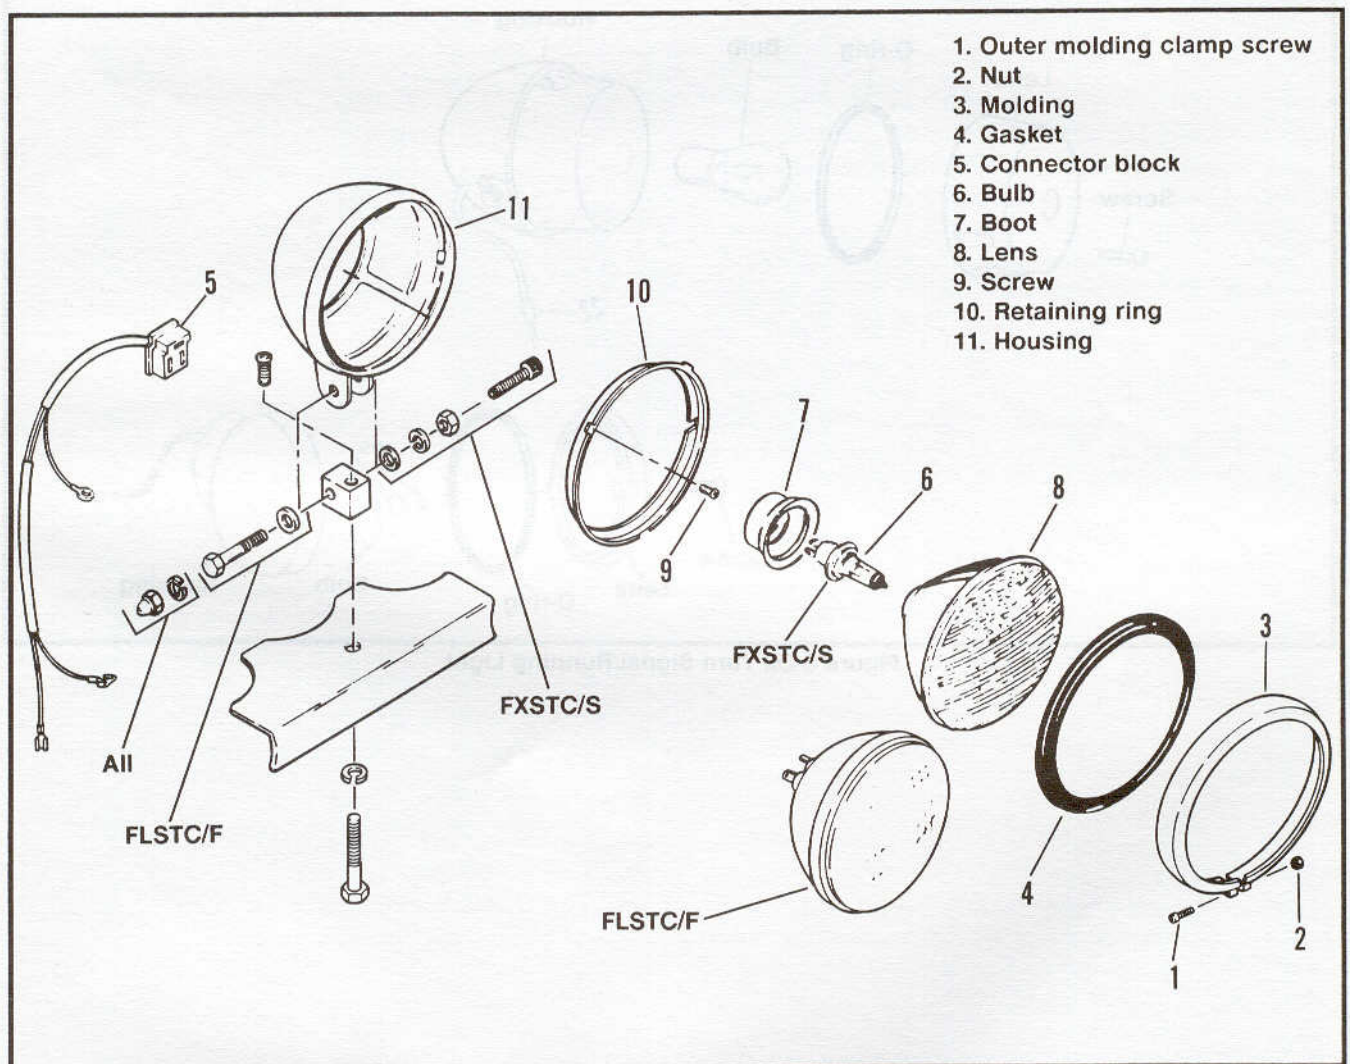

Figure 8-24. Headlamp - 1992
1. See Figure 8-24. Loosen outer molding clamp screw (1) and nut (2). Remove molding (3) and gasket (4).
2. Pull connector block (5) from bulb (6) prongs.
3. Bulb can now be removed from boot (7) and lens (8).
4. If necessary, remove screw (9) and retaining ring (10) from housing (11).